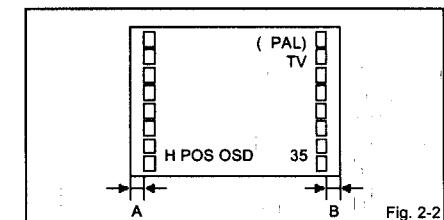

Fig. 2-2
- Press the VOL. UP/DOWN button on the remote control until the difference of A and B becomes minimum. (Refer to Fig. 2-2)